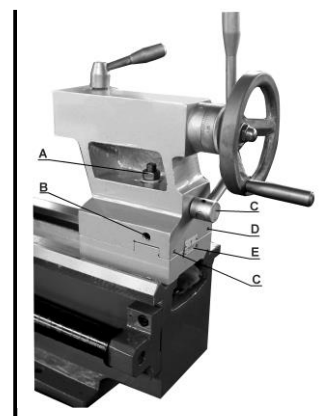

Fig. 17
Loosen the nut (A. Fig. 17), handle (C) and two screws (D) then adjust the screw (A) to deflect the quill center line off-track from spindle center line, for getting the desired taper, please refer to the value in scale plate (E).